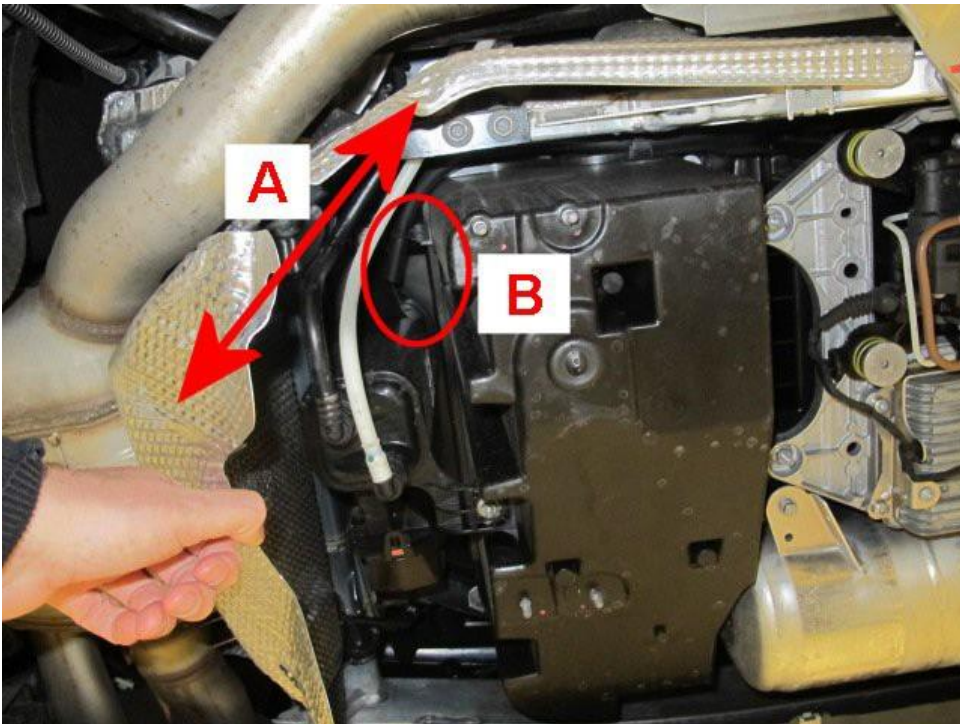

Figure 2
- Referring to Figure 2 (Point A) - Manoeuvre the two heatshields to the condition shown